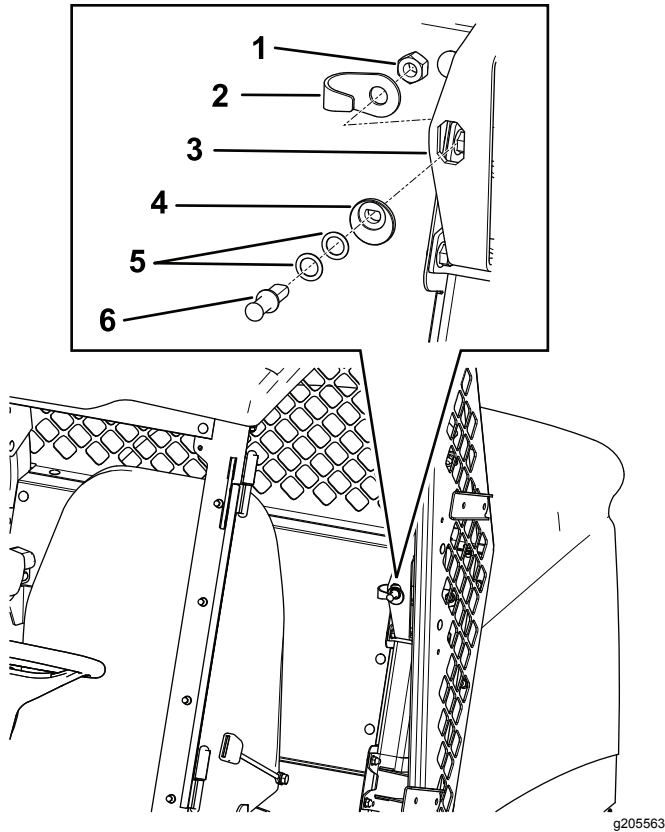

Figure 9
2. Align the latch-pin cam with the opening at the striker plate in the position shown in Figure 9.
3. Insert the latch pin (without the washers at first) into the latch-pin cam (Figure 9).
4. Align the latch pin and the jam nut onto the back side of the opening at the striker plate (Figure 9).
5. Tighten the jam nut onto the latch pin by hand (Figure 9).